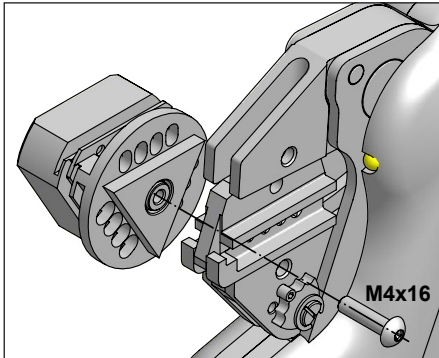

Figure 8
### 8.1.2.2 Example for rotated contacts (Figure 8, 9)
5. Place the positioning guide onto the M4x16 screw as shown in Figure 8 and secure using the thread contained in the locator. (Figure 9)